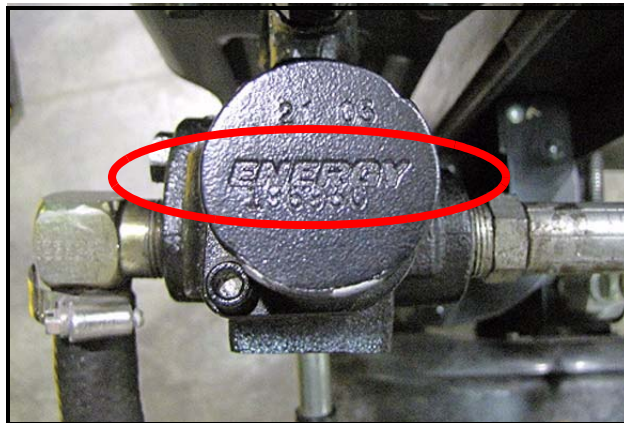

FIGURE 3
6. If the valve has the name "ENERGY" on the end cap, as shown in Figure 3, the valve must be tested. Proceed to the "TEST PROCEDURE" section on Page 3.